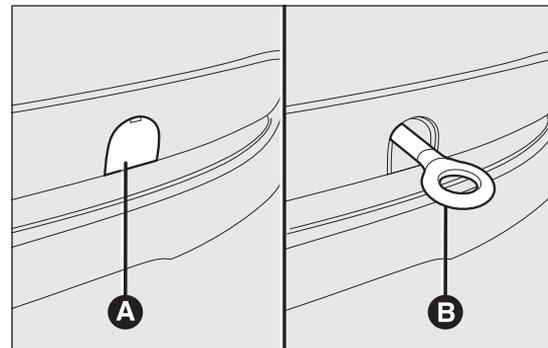

fig. 134
- take the tow ring B fig. 134 from its housing in the tool support;